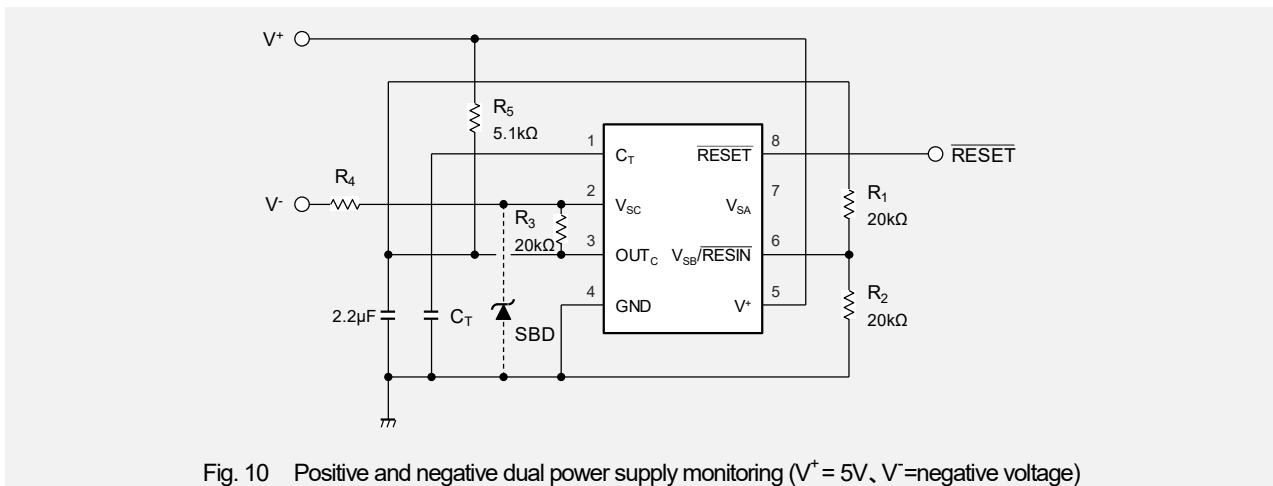

Fig. 10 Positive and negative dual power supply monitoring ($V^+ = 5V$, $V^- = \text{negative voltage}$)
- V^- detection voltage is calculated as following formula. In case of resistor value in Fig.10, the detection voltage (falling) is about -4.3V and the detection voltage (rising) is about -4.4V.